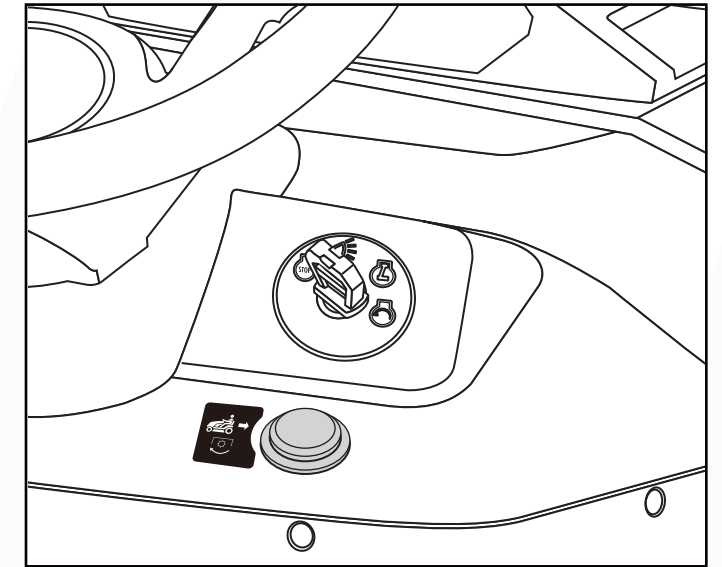

Fig. 22
2. Press and hold M-I-R button. (Fig. 22)